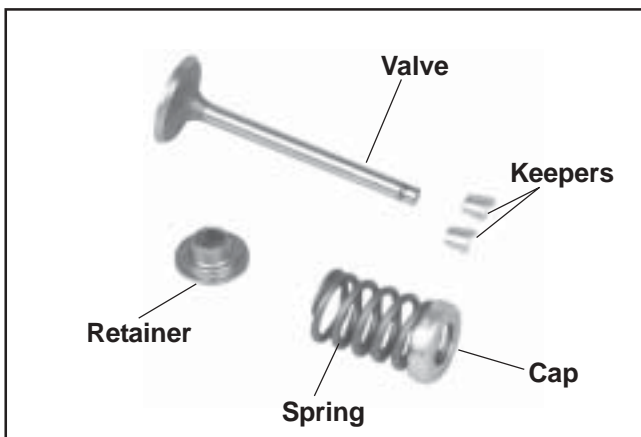

**Figure 9-56. Removing Rocker Arms.**
1. Remove the two hex flange screws, rocker arm pivots and rocker arms from the cylinder head. See Figure 9-56.